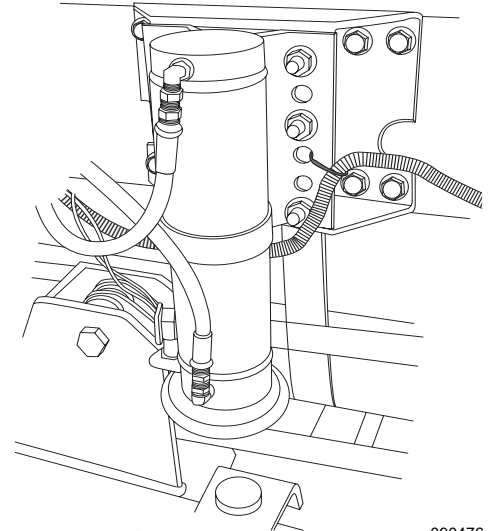

Figure 1
- Leveling Cylinders – Figure 1